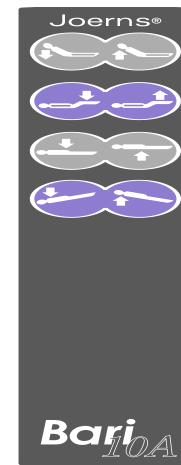

Figure 4
1. Your Bari10A bed comes standard with Pendant Control (Figure 4). Resident/patient and staff can use the Pendant to adjust all Mattress Support Platform sections to desired positions.